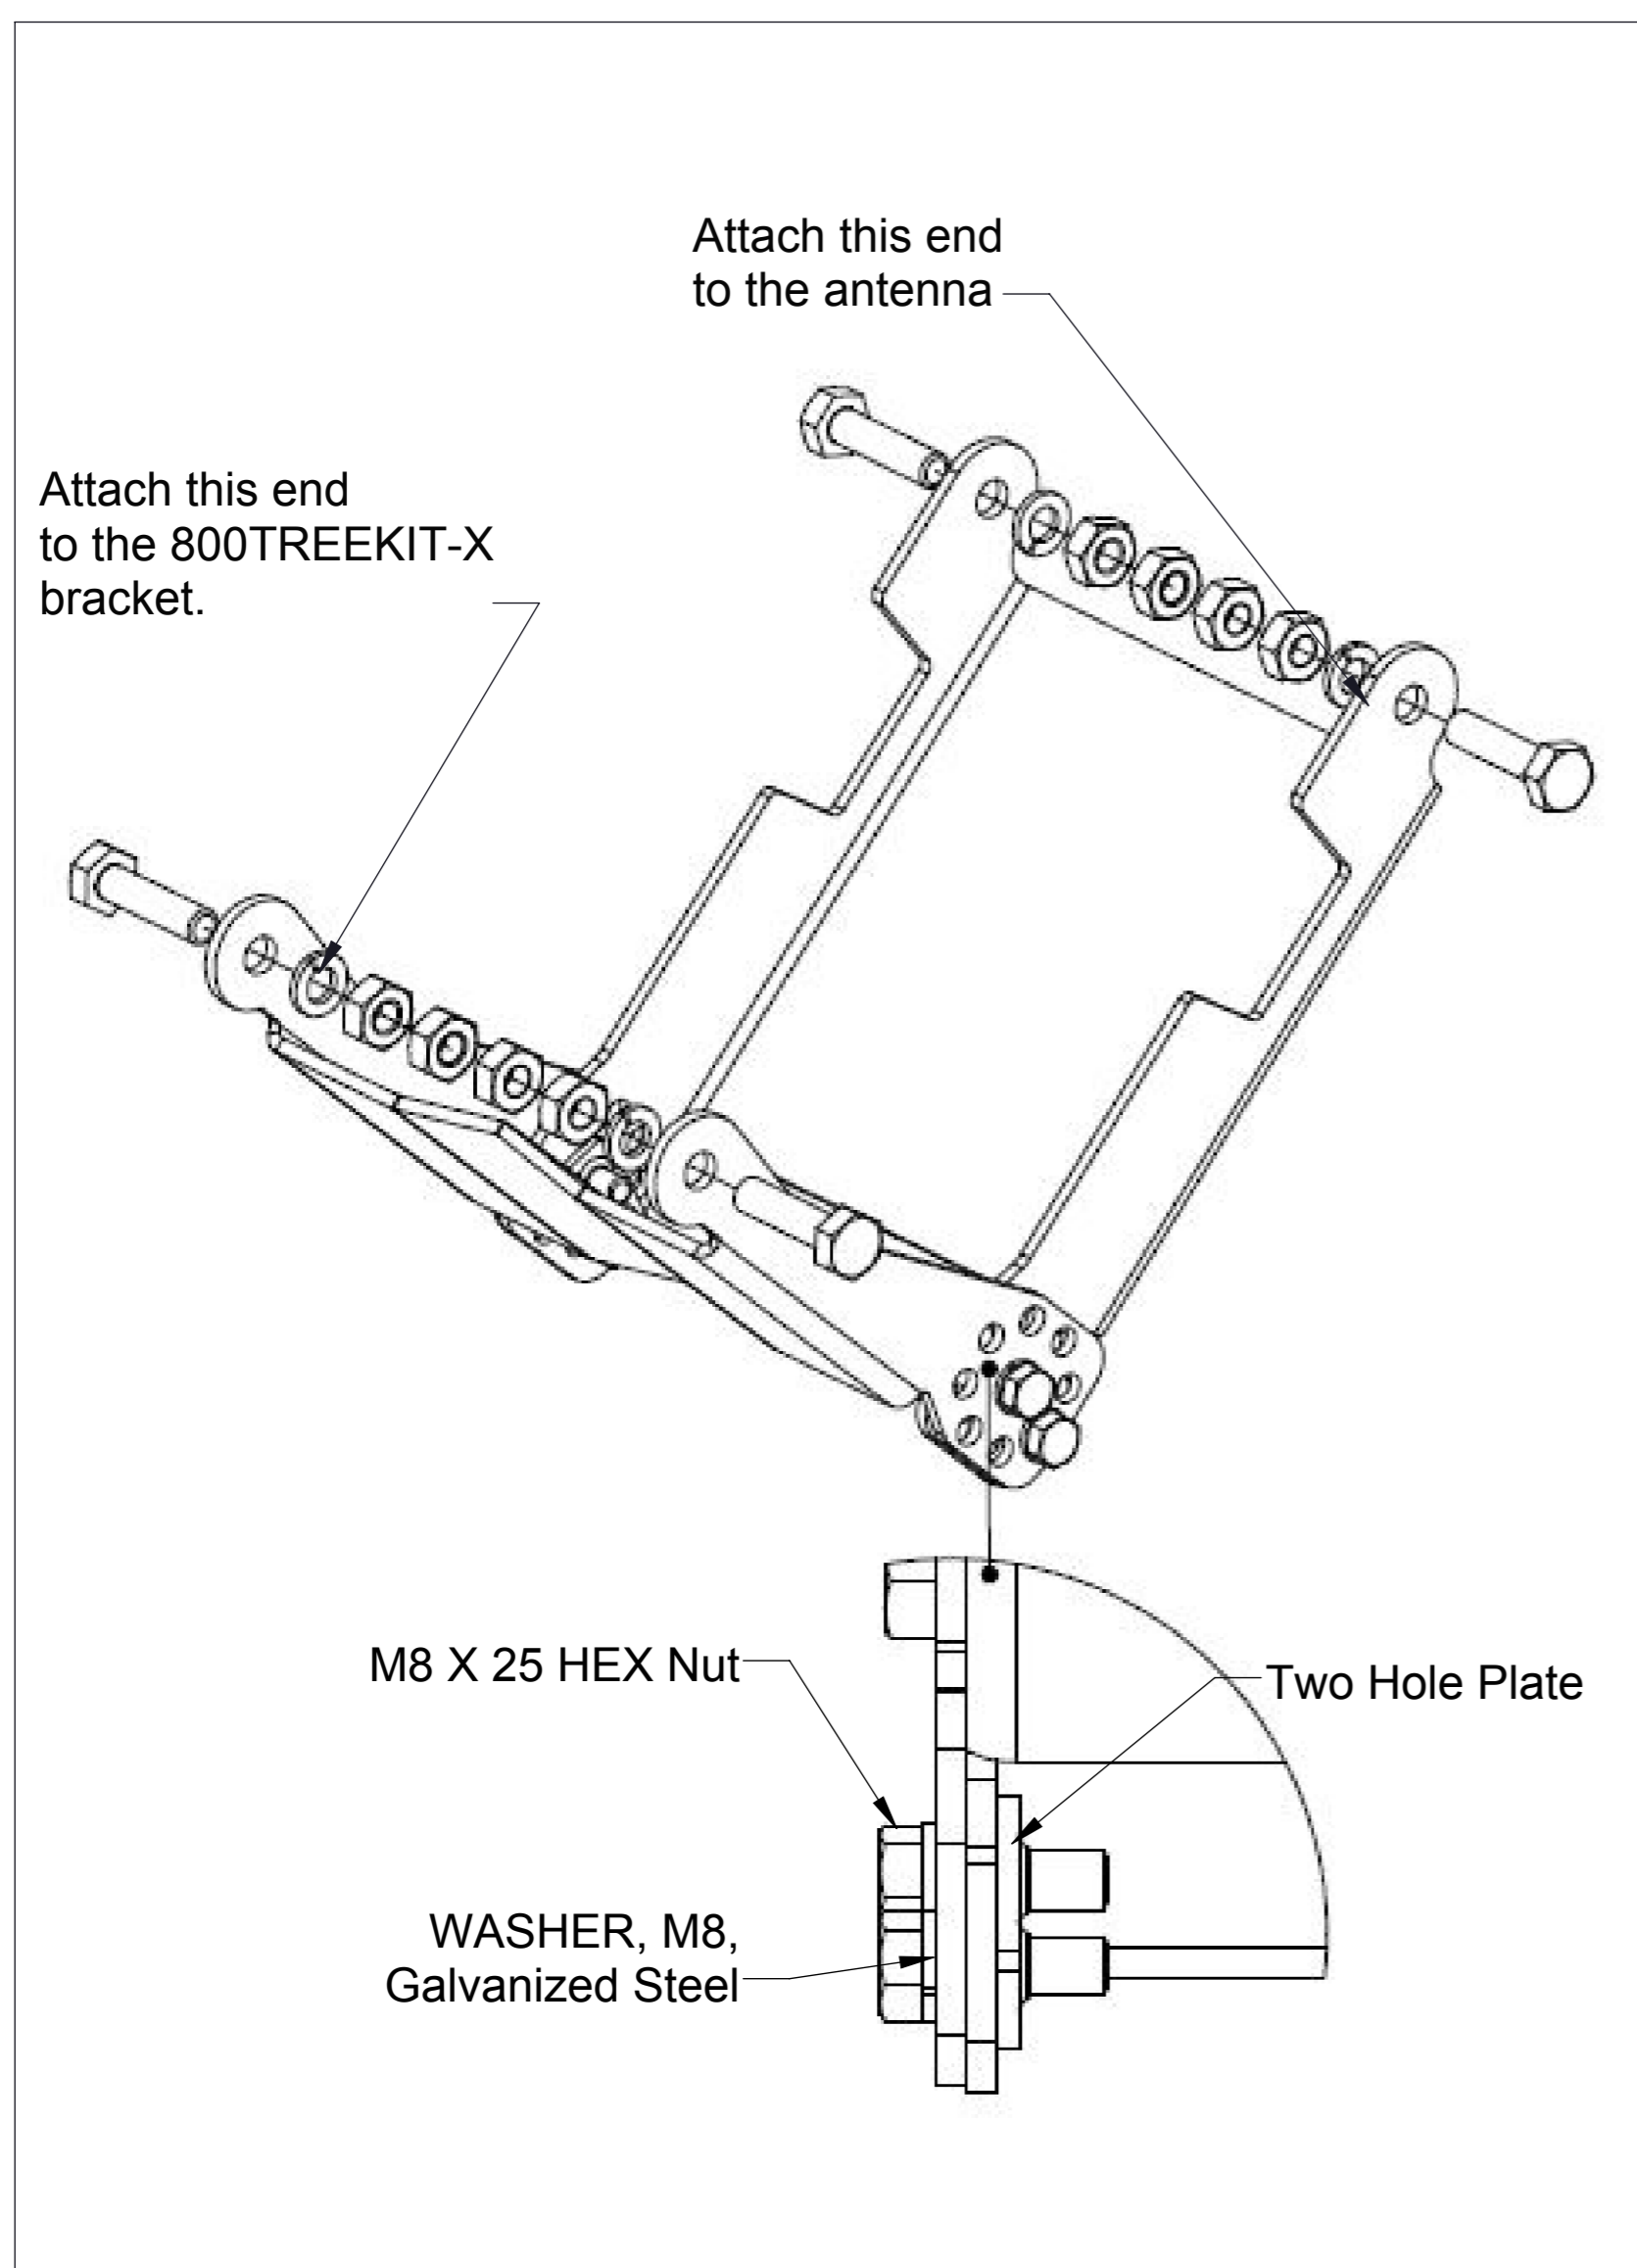

Figure 10. BSAMNT1-3 Downtilt Assembly.
1. Assemble the bracket links and hardware as shown in Figure 10.
See Figure 10 and 11.